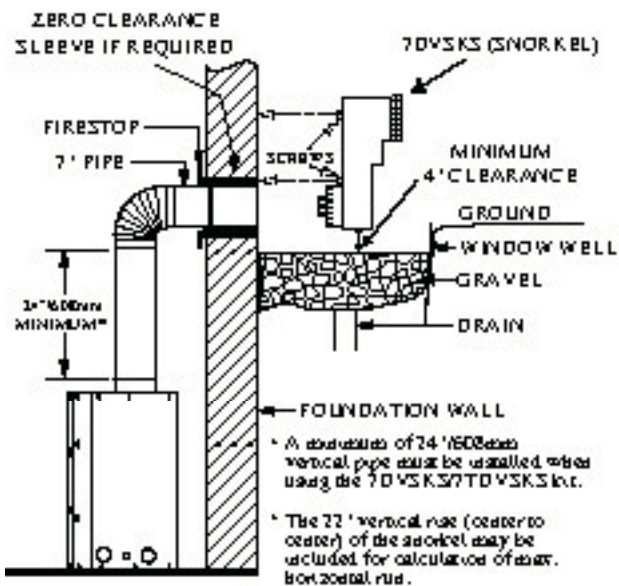

Fig. 28
2. Remove soil to a depth of approximately 16" below base of snorkel. Install drain pipe. Install window well (not supplied). Refill hole with 12" of coarse gravel leaving a clearance of approximately 4" below snorkel. (Fig. 28)
7. Level the soil so as to maintain a 4" clearance below snorkel. (Fig. 28)